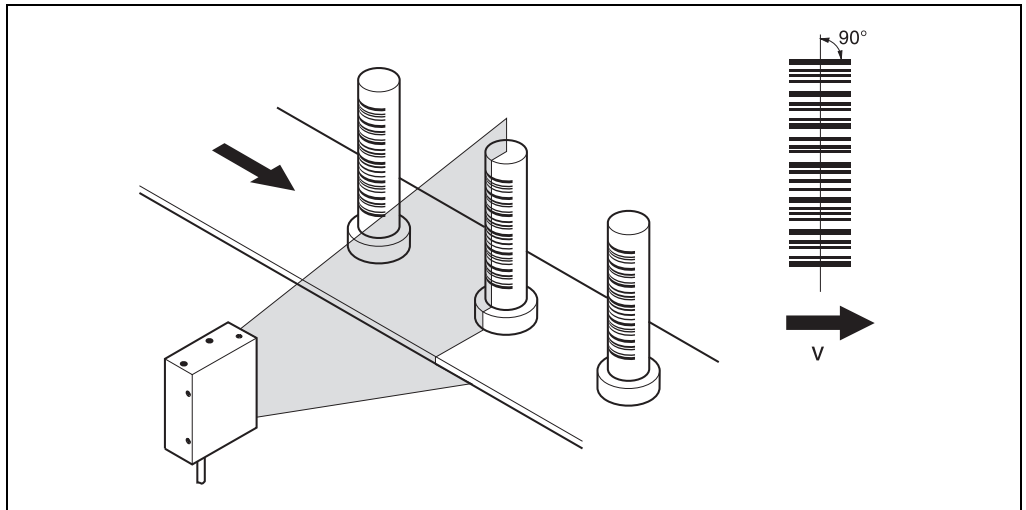
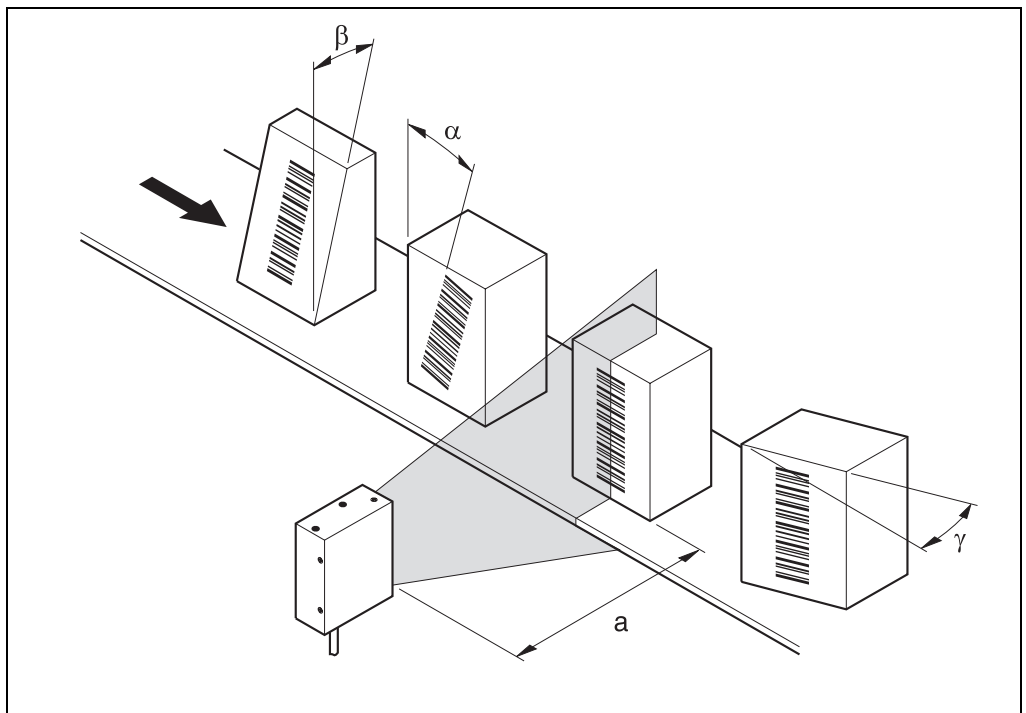

Fig. 4-3: 90° angle between the scan line and the bar code bars
Fig. 4-4: Reading angle occurring between the scan line and the bar code bars
The angle between the scan line and bar code is selected, so that a good reading is possible. The optimum alignment of the CLP100 is reached at an angle of 90° between the scan line and the bar code bars (see Fig. 4-3). Possible reading angles which can arise between the scan line and the bar code bars must be taken into consideration (see Fig. 4-4 and Table 4-1).
1. Align the CLP100 so that the angle between the scan line and the bar code bars amounts to 90°. Take any possible reading angle occurring into consideration (see Fig. 4-4, Page 19).